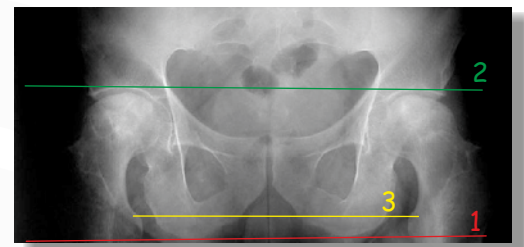

Fig. 1: pre-operative planning
Three horizontal lines are traced (Fig. 1): a Bi-ischiatic line (1), between the lower margins of the ischium; an above acetabular line (2), between the upper margins of the acetabular cavity, and a bi-tronchanteric line (3), between the two lesser trochanters.